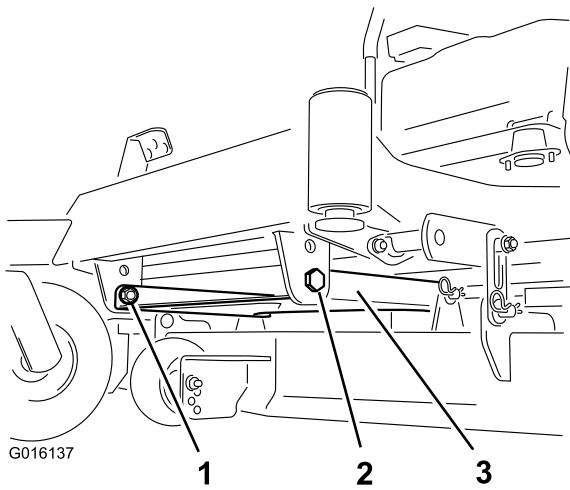

Figure 1
- For all MX Titan machines and all machines with 60 inch mower decks, remove the 2 nuts and bolts that secure the front of the mower housing pan (Figure 1).
6. For all MX Titan machines and all machines with 60 inch mower decks, install the front of the mower housing pan using the nuts and bolts previously removed (Figure 1).